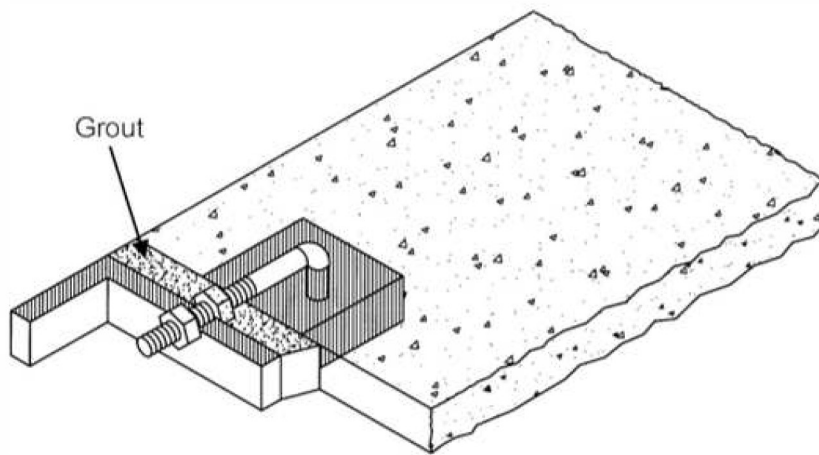

Figure.No.4
4. Pour the grout between wall and frame (Figure.no.4)